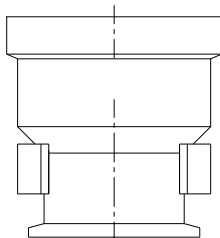
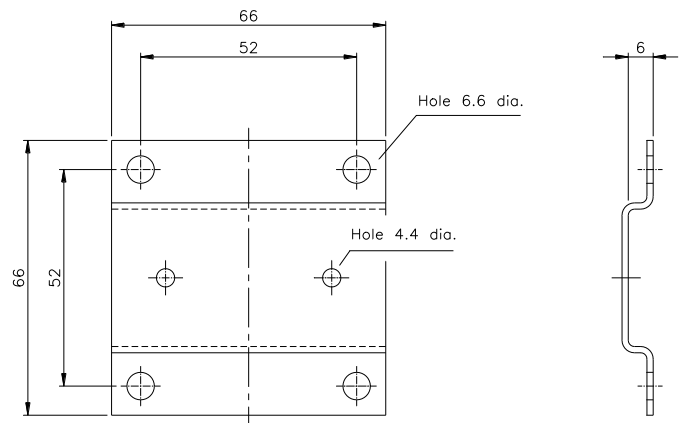

Fig. 3.2.2c
Fig. 3.2.2b
- 1 - Mounting plate, see fig. 3.2.2b
Drill holes at the required distances (for details see fig. 3.2.2b) and fit the mounting plate with M6 bolts or equally sized screws to the wall. Place the unit into the support ring, see fig. 3.2.2c.